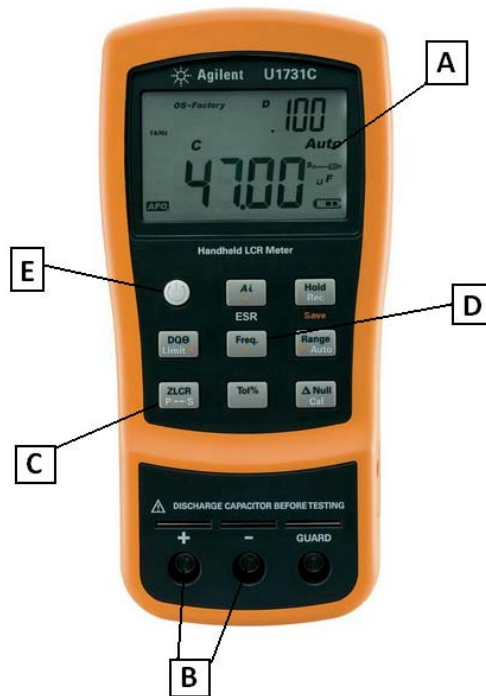

Figure 1: U1731C
- A) Connect 2 wiring leads into the positive (+) and negative terminals (-) [B in Figure 1] of the tester unit.
B) Switch ON the tester unit (“POWER” switch) [E in Figure 1]. The default frequency is 1 kHz, in the opposite case; press the “Freq” [D in Figure 1] button until frequency is shown as 1 kHz.
C) Set the tester unit in the inductance measurement mode pressing “ZLCR” button [C in Figure 1]. Screen must show an L. Read and note the L value on the Table 1. This value named X_L is usually a number with a comma. H (Henry) is the unit.
D) Set the tester unit in the capacitance measurement mode pressing “ZLCR” button [C in Figure 1]. Screen must show a C. Read and note the C value on the Table 1. This value named X_C is usually a number with a comma. nF (nano-Farad, 10^{-9} Farad) is the unit.